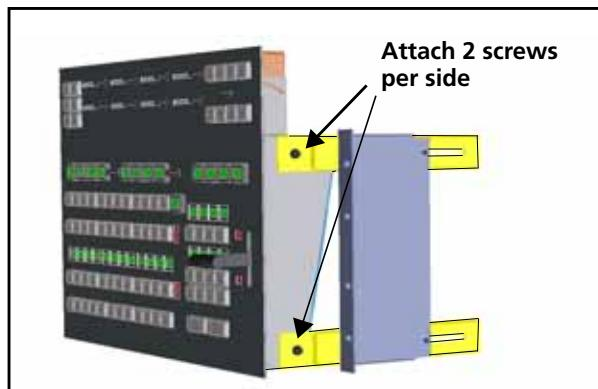

Figure 2-13 Attaching the Rack-Mount Bracket
To install the main control panel and the optional audio control panel in a rack, use the adjustable left and right-side frame mounting brackets that are provided. The brackets are designed so that you can angle the panels either upward or downward, according to your needs. (See Figure 2-13.) If you are using an audio control panel, attach and connect the audio panel to the main control panel frame before you attach the brackets (see Connecting the Main Panel and Optional Audio Panel on page 12).
- 6 Attach the mounting brackets to the sides of the main control panel using the screws provided (see Figure 2-13).